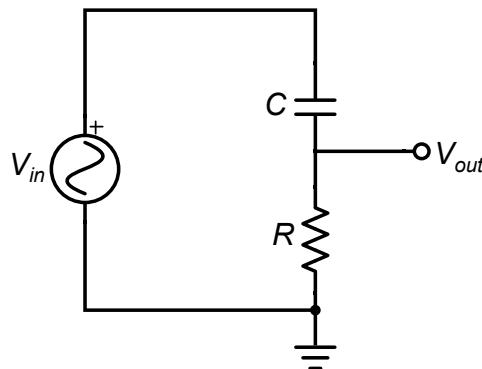

Figure 1 - A high-pass filter circuit is constructed with a resistor and capacitor.
In this portion of the lab, you will construct the RC circuit shown in Figure 1. You will then measure the amplitude of the output voltage $|V_{out}|$ as a function of the driving frequency f .
2. Construct the circuit in Fig. 1 using $R = 1 \text{ k}\Omega$ and $C = 0.047 \mu\text{F}$.